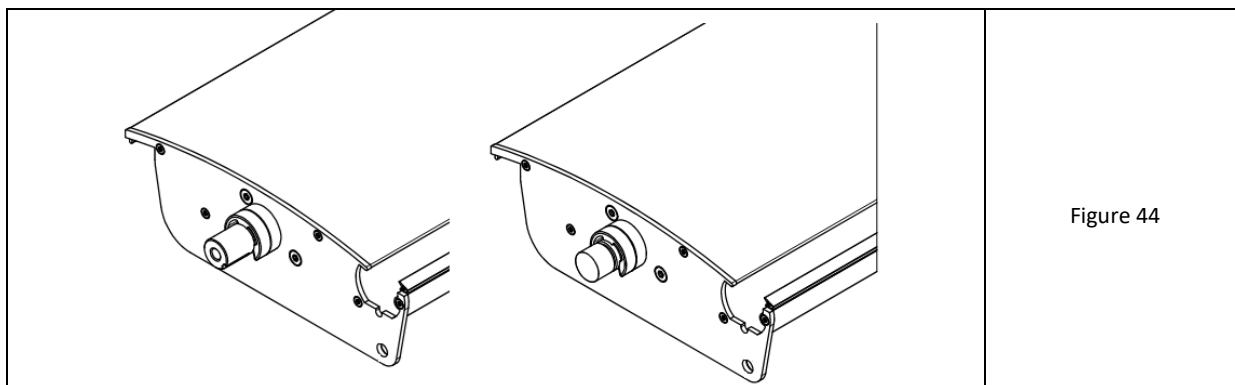

Figure 44
2. There are 2 types of pins on the side of the drive end cap (fig. 44):